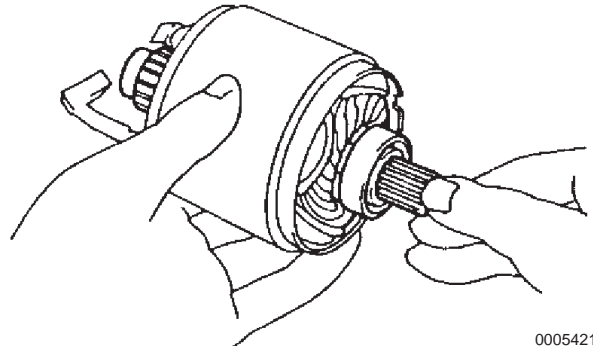

Figure 10-33
1. Apply grease to the armature bearing and install the armature in the field frame (**Figure 10-33**).